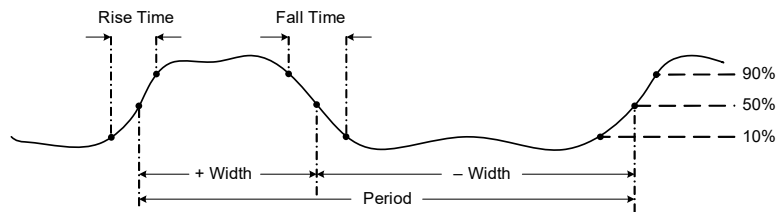

Figure 2-7 Definition of frequency
- Frequency is the number of cycles a signal completes each second. Frequency is defined as $1/\text{Period}$. Period is defined as the time between the middle threshold crossings of two consecutive, like-polarity edges, as shown in Figure 2-7.